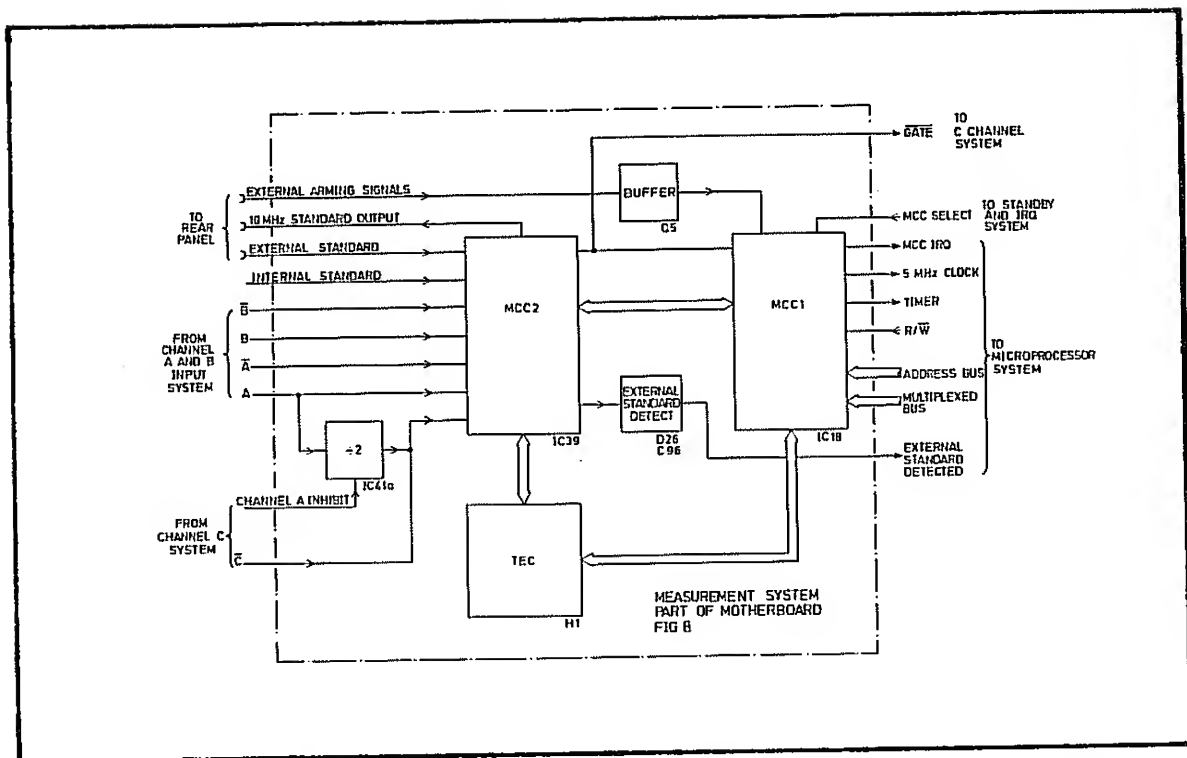

Fig 6.4 The Measurement System
- 37 The measurement circuits of the instrument are provided by three custom-built integrated circuits. These are the two Multiple Counter and Control (MCC) circuits, MCC1 and MCC2, and the Timing Error Correction (TEC) circuit. A block diagram is shown in Fig 6.4.